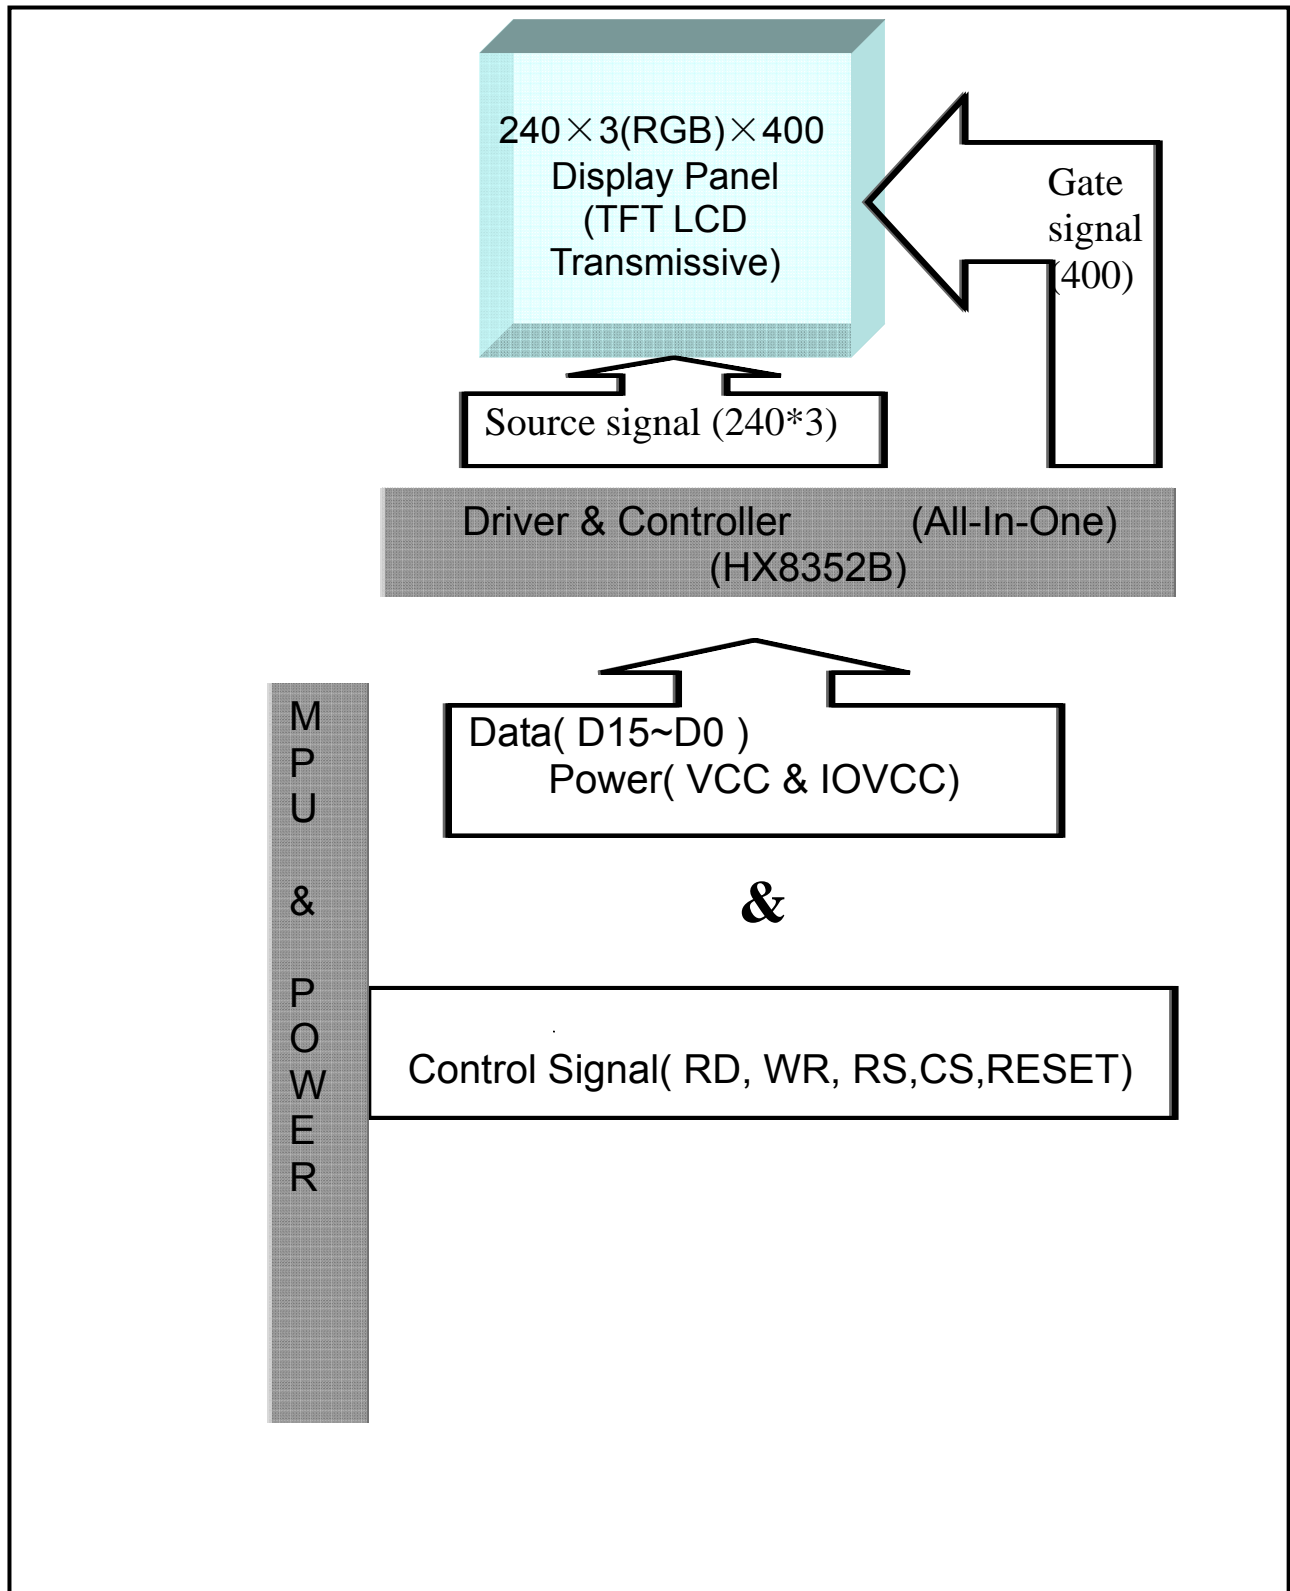

**FIG. 3 The definition of Viewing Angle**
| 4) Viewing Angle    | $\theta_T$ | 30     | 40    | -     | Degree            | FIG.3 |
4. Viewing angle is the angle at which the contrast ratio is greater than 10. The angles are determined for the horizontal or x axis and the vertical or y axis with respect to the z axis which is normal to the LCD surface. For more information see FIG 3.